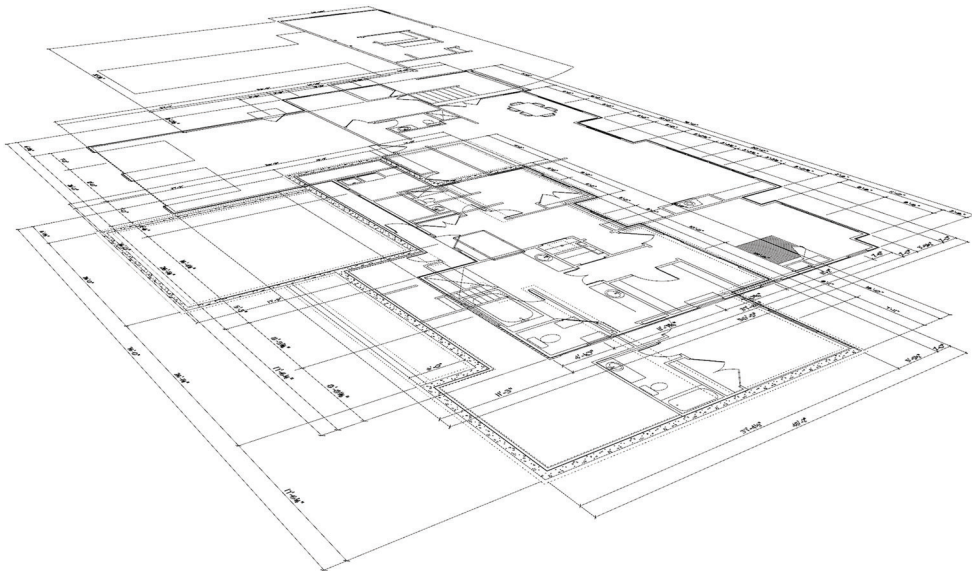

Figure 7.1 Stacked Floor Plans.
5. Import the next floor plan, if any, following the steps outlined above. After scaling this new floor plan, move it to align with known shared point on previous floor plan, so they are stacked, and verify alignment. At this point, if you are not already in Parallel Projection, change camera (*Camera > Parallel Projection*) and top view (*Camera > Standard Views > Top*). This should give you an exact alignment to the drawing in Figure 7.1.
Figure 7.1 shows an example of stacked floor plans that have been aligned and moved into proper Z axis. With all three floor plans ready to go, we could begin modeling the structure from the ground up.